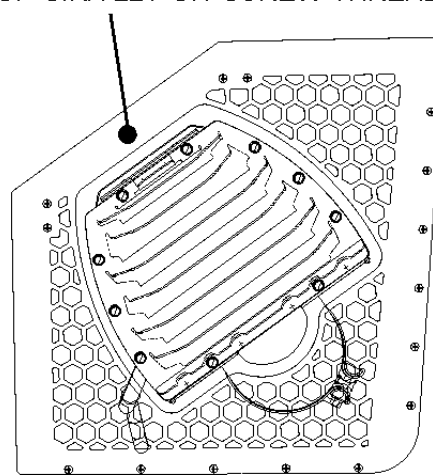

FIGURE 9: DIFFUSER POSITION ADJUSTMENT 04015_3
5. Reinstall the exhaust aftertreatment system roof ventilation grill and deflector. Put a small quantity of Sika 221 on screws (fig.9).